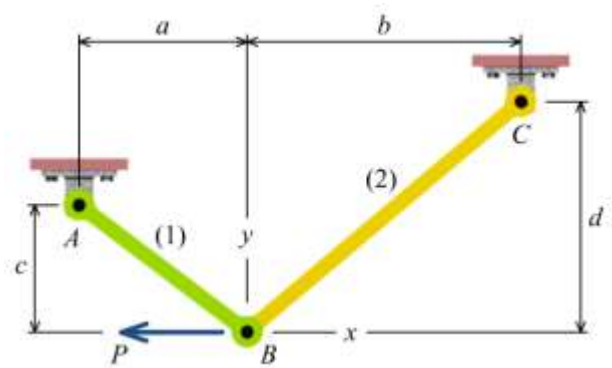

FIGURE P2.2
**P2.2** The two bars shown in Figure P2.2 are used to support load  $P$ . When unloaded, joint  $B$  has coordinates  $(0, 0)$ . After load  $P$  is applied, joint  $B$  moves to the coordinate position  $(-0.55 \text{ in.}, -0.15 \text{ in.})$ . Assume  $a = 15 \text{ ft}$ ,  $b = 27 \text{ ft}$ ,  $c = 11 \text{ ft}$ , and  $d = 21 \text{ ft}$ . Determine the normal strain in each bar.